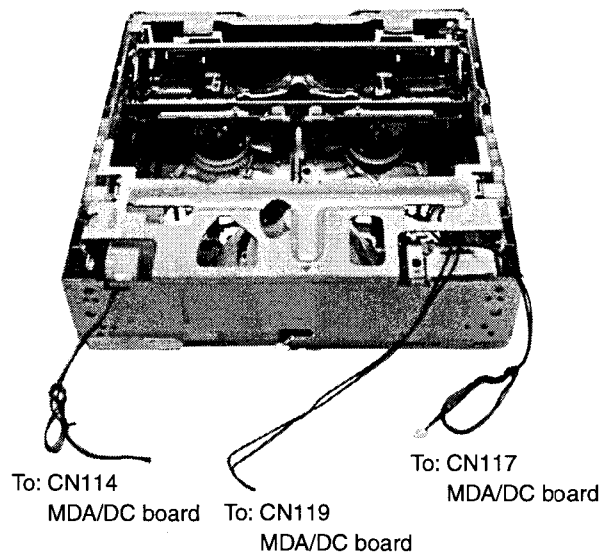

Fig. 1.6.3 Mechanism assembly
- (2) Remove the FFC wires that connects the mechanism board, which is mounted on the backs of the mechanism assembly, MDA/DC board, and the DV/CPU board.
- (3) Remove the four screws ⑦ on the side.
- (4) Remove the mechanism assembly as shown in Fig. 1.6.3.